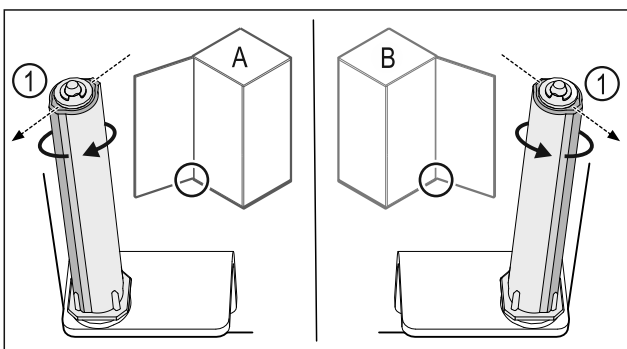

Fig. 45 Left-hinged (A) / Right-hinged (B)
- Turn the closing system against the resistance until the bar of the closing system Fig. 45 (1) points outwards.